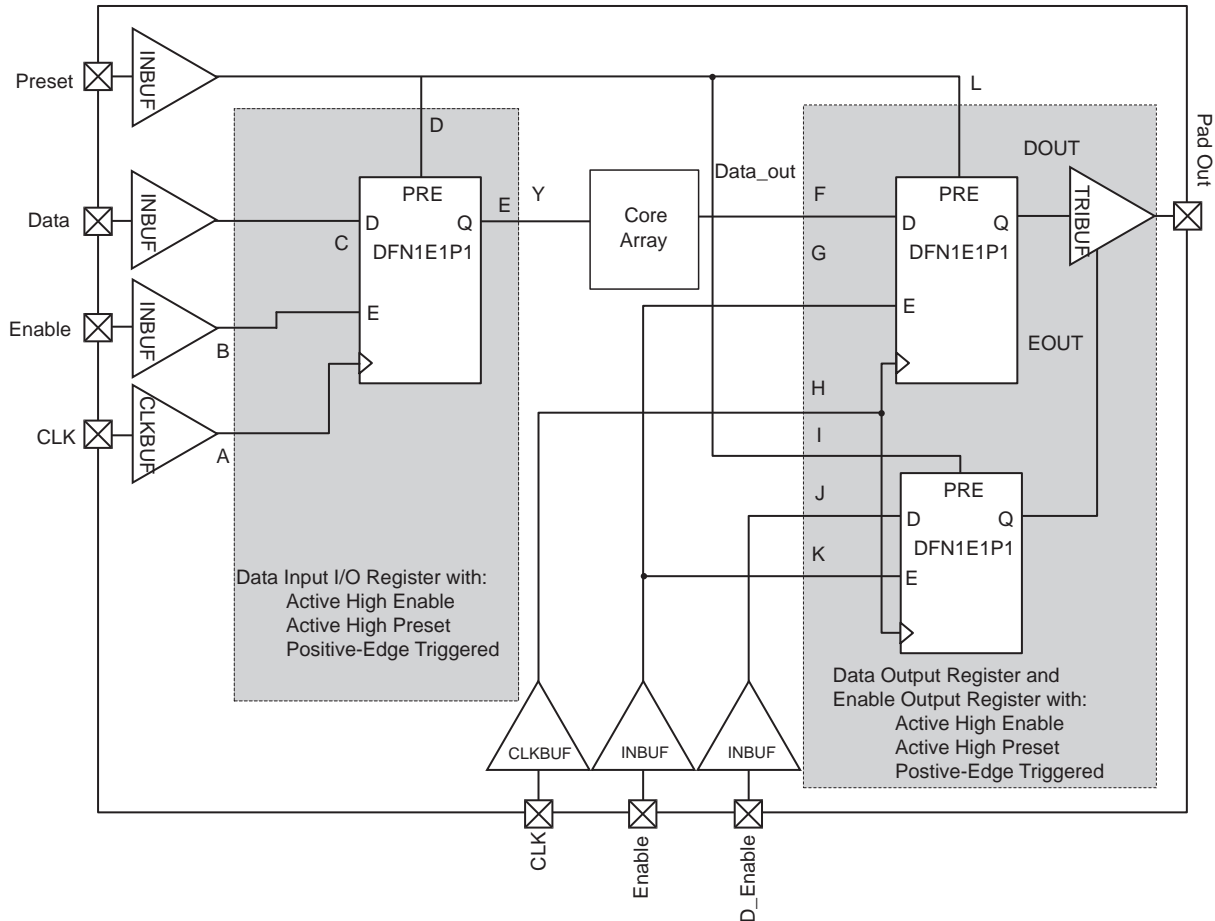

Figure 2-16 • Timing Model of Registered I/O Buffers with Synchronous Enable and Asynchronous Preset
* See Figure 2-16 on page 2-85 for more information.